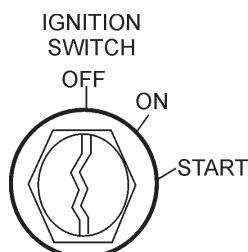

Figure 19. Ignition Switch
3. Insert the ignition key into the ignition switch (Figure 19), turn the key to the **ON** position, then to the **START** position, release the key when the engine starts.
3. Turn the ignition key (Figure 19) to the **OFF** position.